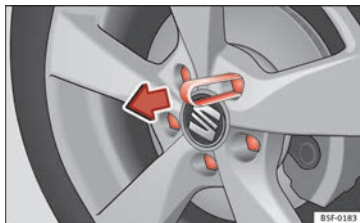

Fig. 123 Pull off the wheel bolt cap.
- Insert the plastic clip into the cap until the inner retaining notches on the clips touch the collar of the cap and then remove it » **Fig. 123**.